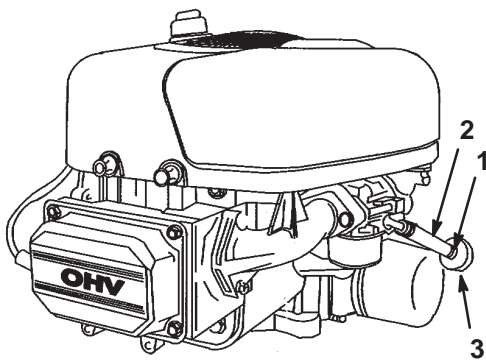

Figure 26
7. Squeeze the ends of the hose clamp together and slide it up the fuel line toward the fuel tank (Fig. 26).
8. Pull the fuel line off of the filter (Fig. 26) and allow the gasoline to drain into a gas can or drain pan.
The best time to replace the fuel filter (Fig. 26) is when the fuel tank is empty. Never install a dirty filter if it is removed from the fuel line.
6. Squeeze the ends of the hose clamps together and slide them away from the filter (Fig. 26).